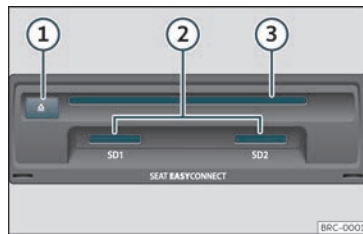

Fig. 156 Slots for data storage devices in the glove compartment.
- Insert a CD or DVD into the slot >>> Fig. 156 ③ with the printed side facing upwards, until the equipment inserts it automatically.
Insert the compatible memory card, with the cut corner first and the contacts facing down, into slot »» Fig. 156 (2), until it clicks into place.